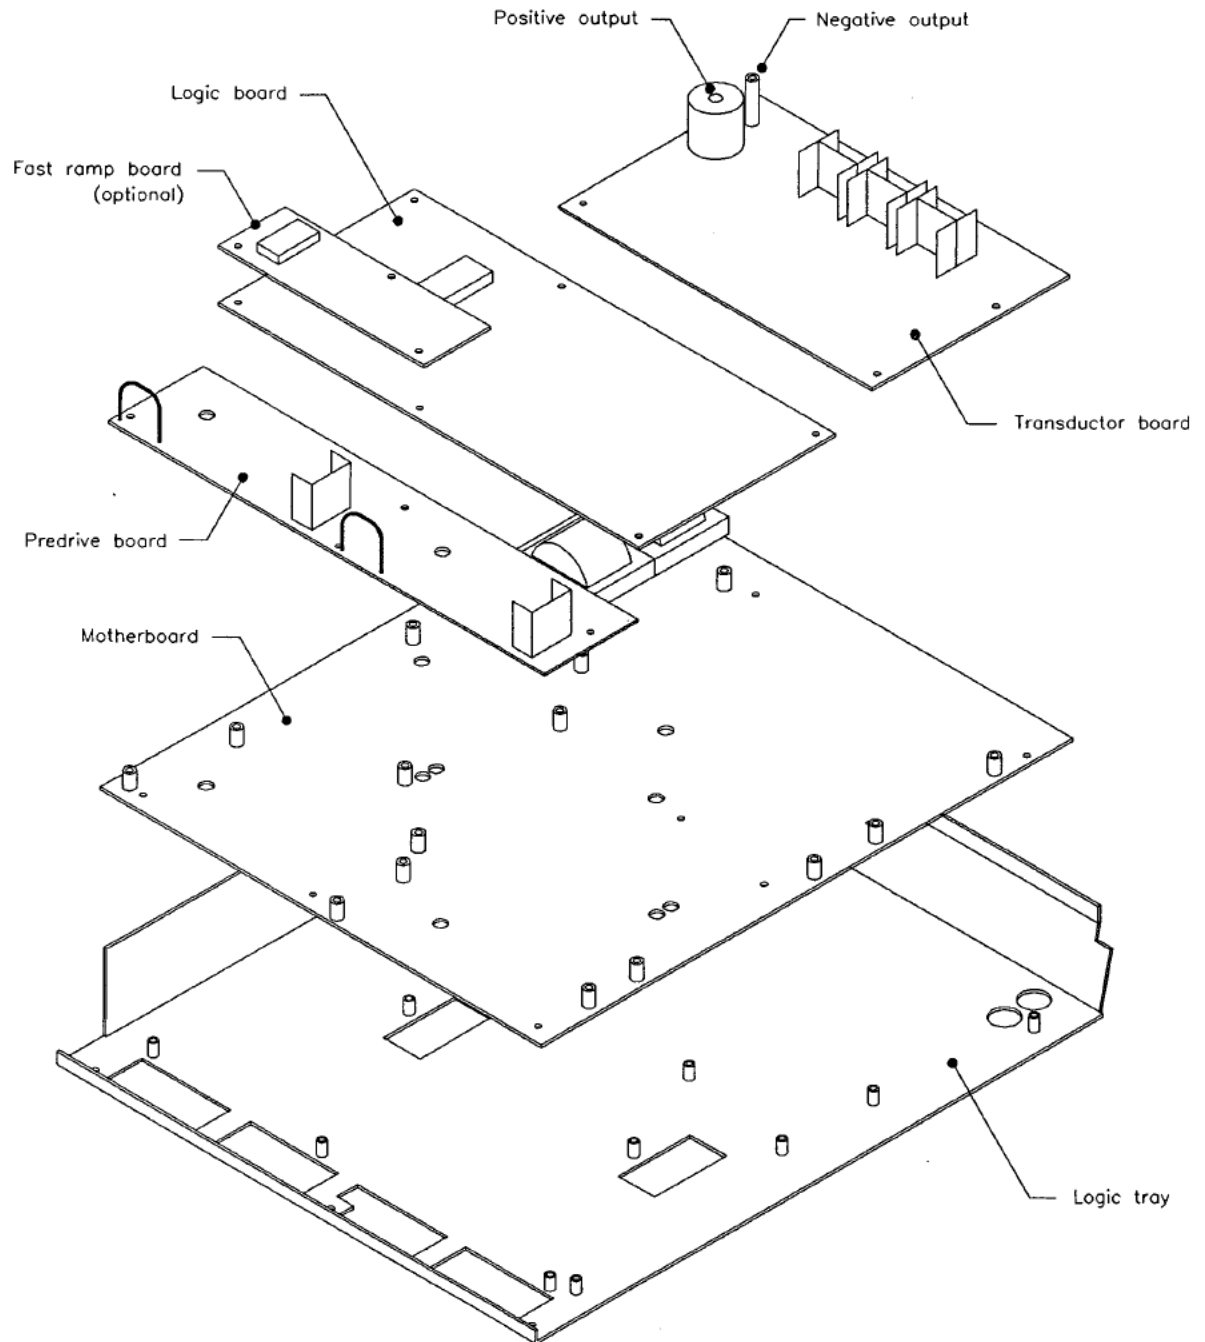

Figure 4-12. Exploded illustration showing the relative positions of some of the printed circuit boards inside the MDX chassis.
2. Remove the smoke-colored safety shields by removing the black oval-head screws. Under the safety shield is the logic tray. The logic tray covers the top of the MDX and begins at the right side of the chassis (as you look from the front panel end into the top of the MDX). Three boards — the transducer, logic, and predrive — plug into the motherboard (see Fig. 4-12 on page 4-41; also see the safety shield illustration on page 4-42). The motherboard is mounted on the metal logic tray.